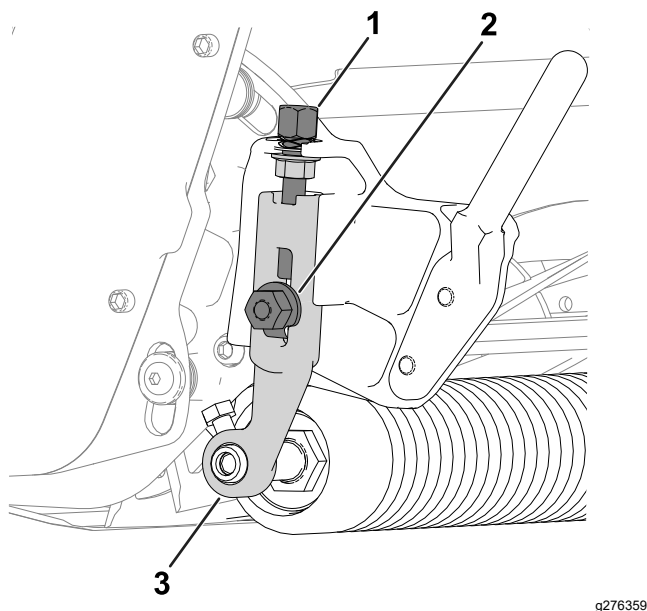

Figure 10
1. Loosen the locknuts that secure the height-of-cut arms to the cutting-unit side plates (Figure 10).